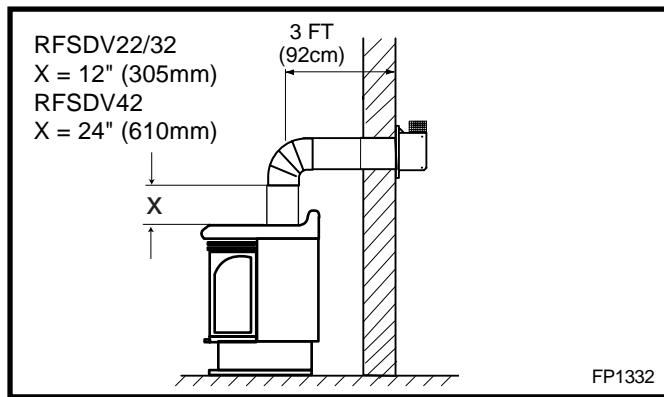
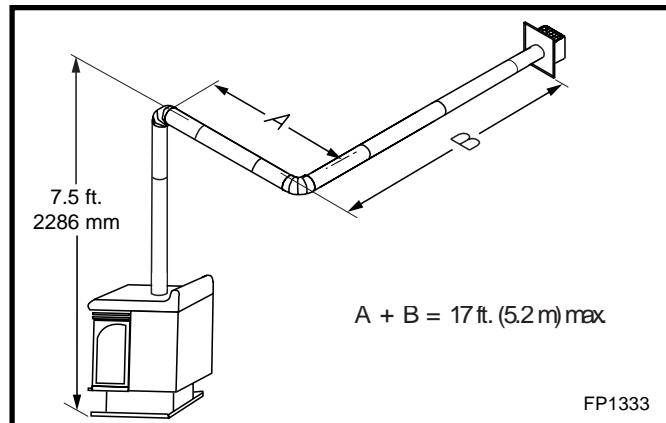

Fig. 10 Maximum horizontal run with vertical rise.
Fig. 11 Horizontal run reduction.
- The maximum number of 90° elbows per side wall installation is three (3).
- **For RFSDV22 & RFSDV32 the maximum horizontal run off a minimum 12" (305mm) vertical rise is 3' (914mm). (Fig. 10)**
- **For the RFSDV42 a minimum of 24" (610mm) vertical rise is required for a maximum horizontal run of 3'(914mm). (Fig. 10)**
- **If a 90° elbow is used in the horizontal vent run (level height maintained) the maximum horizontal vent length is reduced by 36" (914mm). (Fig. 10) This does not apply if the 90° elbows are used to increase or redirect a vertical rise. (Fig. 11)**
(Fig. 11 Dimension A plus B must not be greater than 17' (5.2m))